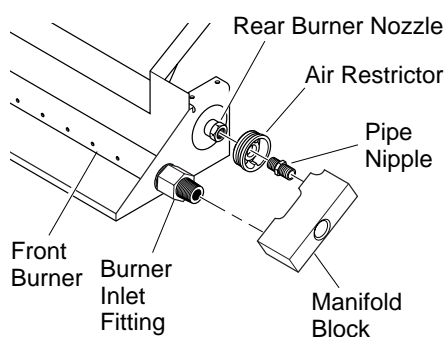

Figure 8 - Kit Assembly
1. Remove burner inlet fitting from front burner (installed in burner pan, see Figure 8).
3. Using thread sealant (resistant to the action of propane/LP gas) on larger end of fitting, screw the burner inlet fitting through the hole and into the front burner (see Figure 8). Tighten using a 7/8" wrench. If using propane/LP gas, see *Propane/LP Gas Conversions*, page 10.
4. Apply thread sealant compound to the 3/8" male threads of the burner inlet fitting. Thread the manifold block (see Figure 8) onto the burner inlet fitting. Use the bottom hole of the block.